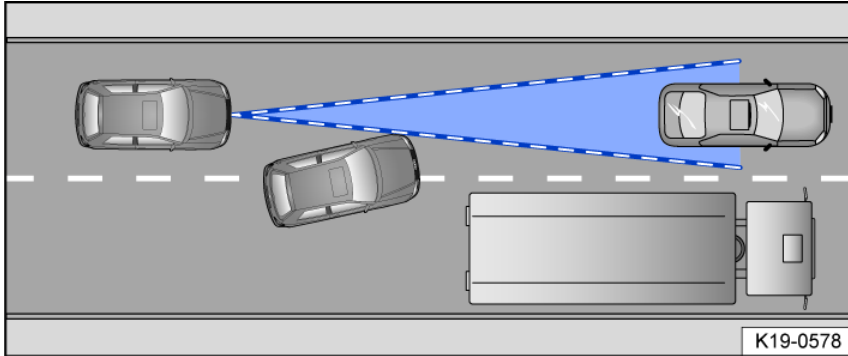

Fig. 129 Changing lanes.
- If vehicles change to your lane close in front of your vehicle fig. 129.